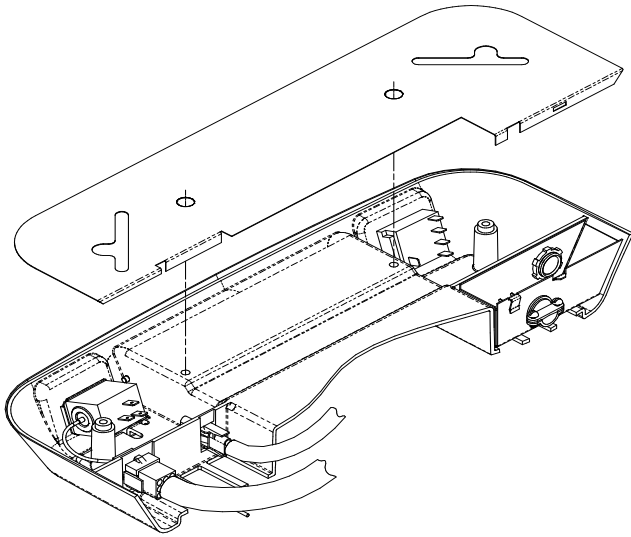
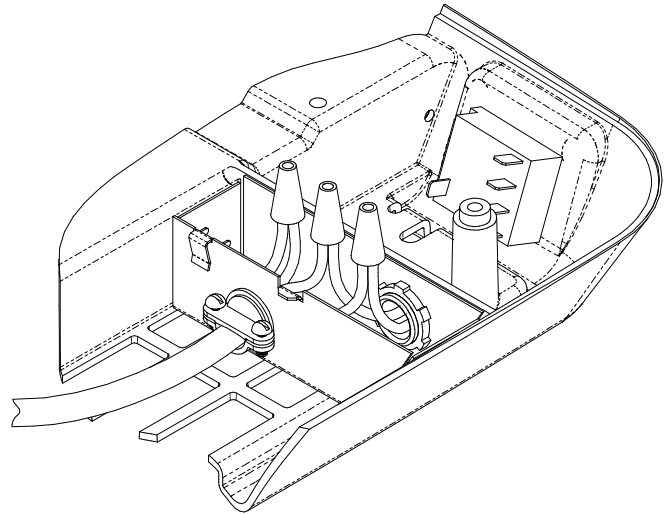
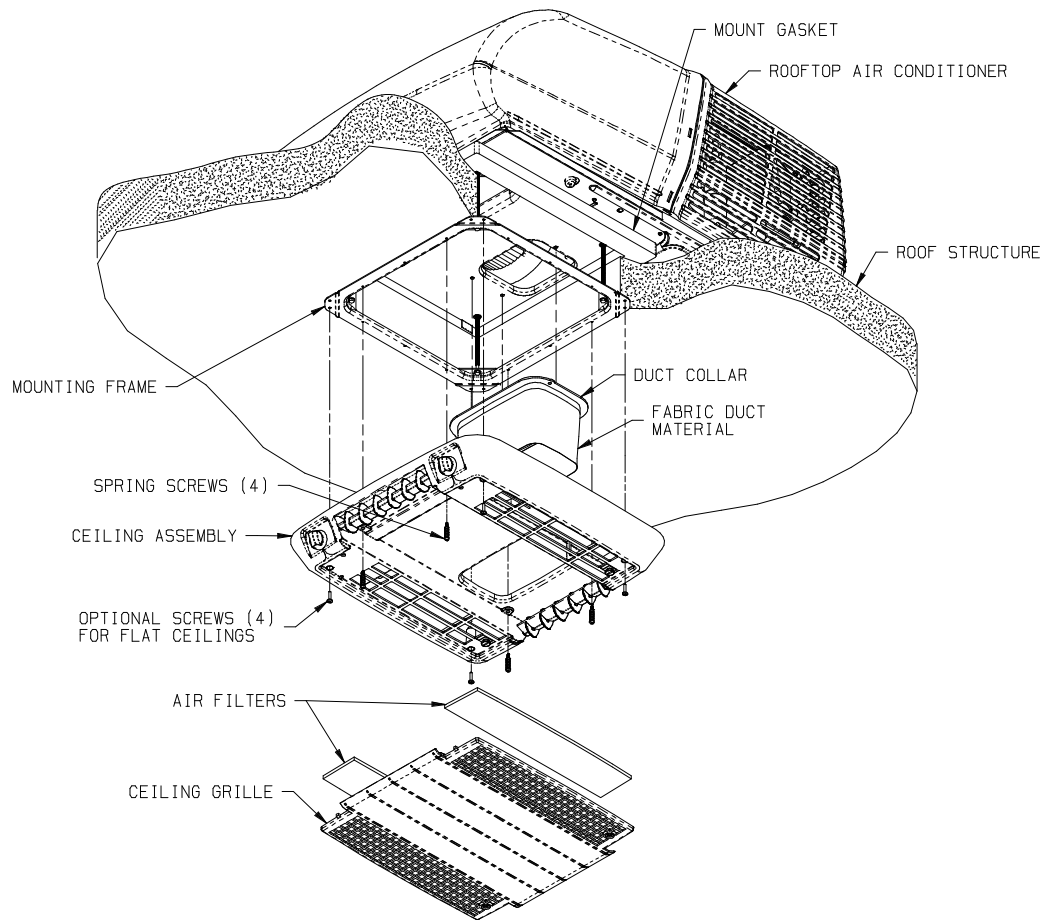

FIGURE 7
FIGURE 8
FIGURE 9
| <p>A. Carefully uncarton the ceiling assembly. Controls are factory installed in the ceiling assembly (except ceiling assemblies for applications with remote control box/thermostat).</p> <p>B. Remove the grille and filters from the ceiling assembly.</p> <p>C. STEP “C” CAN BE SKIPPED IF THE OPTIONAL 9233(X)4551 HEATER ACCESSORY PACKAGE IS NOT INSTALLED AT THIS TIME.</p> <p>Plug the heater cord into the 2 position receptacle (See Figure 7).</p> | <p>TIE ALL WIRING TO INSURE NO CONTACT WITH THE HEATER OR ANY SHARP EDGES. KEEP IN MIND THAT HIGH VELOCITY AIR WILL BE ENCOUNTERED IN THIS AREA.</p> <p>D. Fasten the duct collar to the basepan of the air conditioner with three (3) screws (See Figure 9).</p> <p>E. Plug the roof top air conditioner electrical conduit into the 9 position receptacle located in the thermostat side of the ceiling assembly (See Figure 7).</p> <p>F. Insert the supply wiring through the cable clamp and into the field wiring box so that 4 - 6” of supply conductor is inside the box. Secure the cable clamp over the supply wire sheath so that no movement is possible (See Figure 8).</p> <p>G. Connect the supply power conductors to the black and white pigtail wires and the supply ground wire to the green pigtail wire found in the field wiring box using the 3 provided wire nuts. IMPORTANT – Connect the black supply to the black pigtail and the</p> |
white supply to the white pigtail. Using a U.L. approved electrical tape, secure the wire nuts to wires in a workmanlike manner (See Figure 8).
- H. Place the metal control box shield over the thermostat, switch and field wiring boxes. Make certain that all wires are pushed into the control boxes or laying in the wireway between the thermostat and switch boxes and will not be pinched by the control box shield. Control box shield is properly installed when the two holes in the shield are aligned with the two screw holes in the ceiling assembly chute (See Figure 7).
- I. Raise the ceiling assembly and secure to the mounting frame with 4 provided shoulder screw/spring assemblies. The front two screws should pass through the clearance holes in the metal control box shield (See Figure 9).
- J. The ceiling assembly shroud is curved to contour to a crowned ceiling. If installation is to a flat ceiling and gaps are present on the sides of the shroud, insert the four optional 3/4 inch screws (provided) through the mounting posts and secure them to the mounting frame above (See Figure 7, 8 & 9 for screw locations).